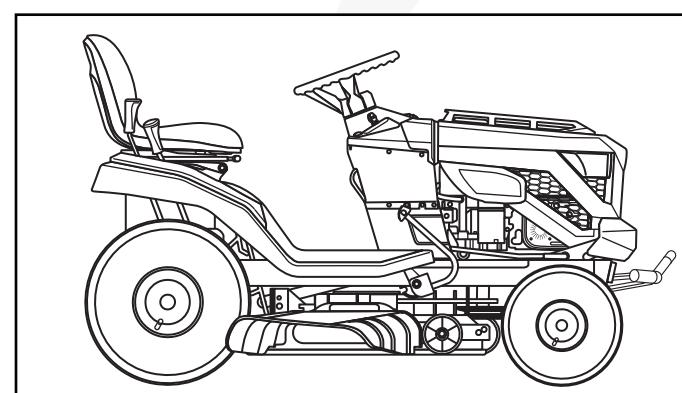

Fig. 12
1. Put the unit on a level surface as shown in Fig. 12.